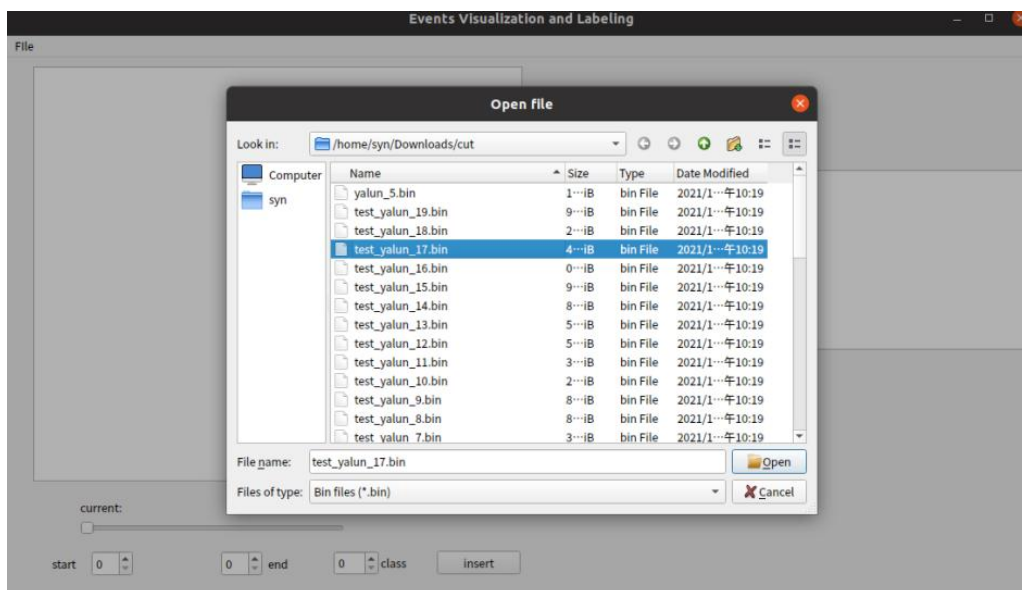

Figure 15: DVS tool open bin file
1. Click the File menu then choose a data file (\*.bin), as shown in Figure 15.